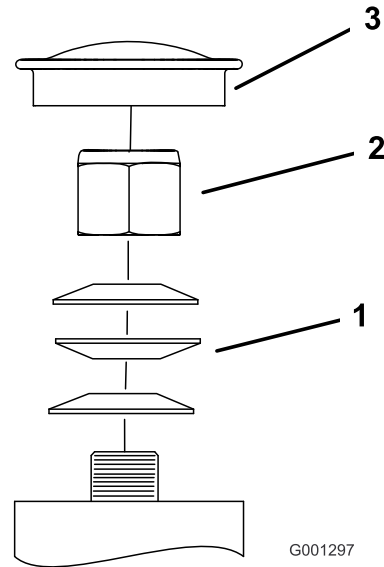

Figure 63
3. Remove the dust cap from the caster and tighten the locknut (Figure 63).
4. Tighten the locknut until the spring washers are flat and then back off a 1/4 turn to properly set the pre-load on the bearings (Figure 63).
Important: Make sure that the spring washers are installed correctly as shown in Figure 63.
5. Install the dust cap (Figure 63).